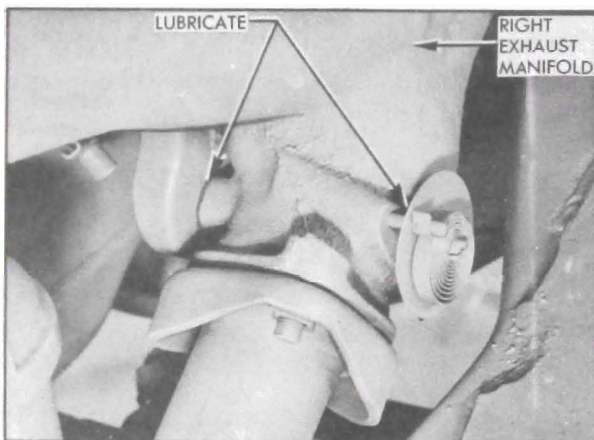

Figure 1-6—Manifold Valve
13. *Manifold Valve Shaft.* Place a few drops of graphited kerosene on shaft at each end and rotate shaft to work lubricant into bearings. See figure 1-6. If shaft is frozen, free up by tapping ends of shaft lightly with hammer.